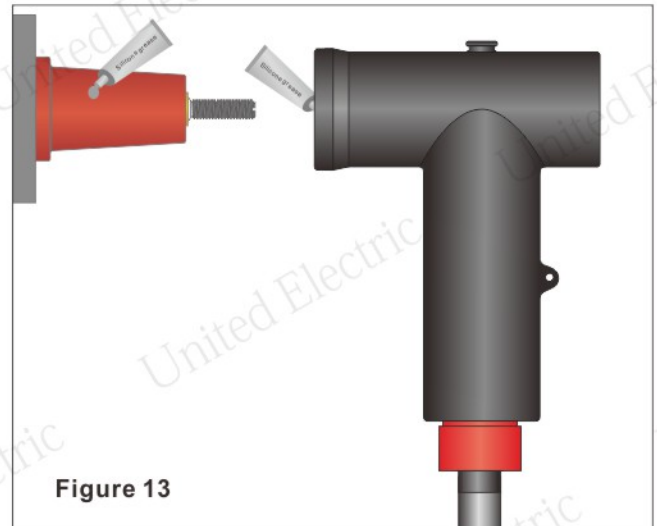

Figure 13
- Coat evenly a thin layer of silicone grease onto the connected bushing, and the inner surface of the front end of CJB20-630. (Figure 13)